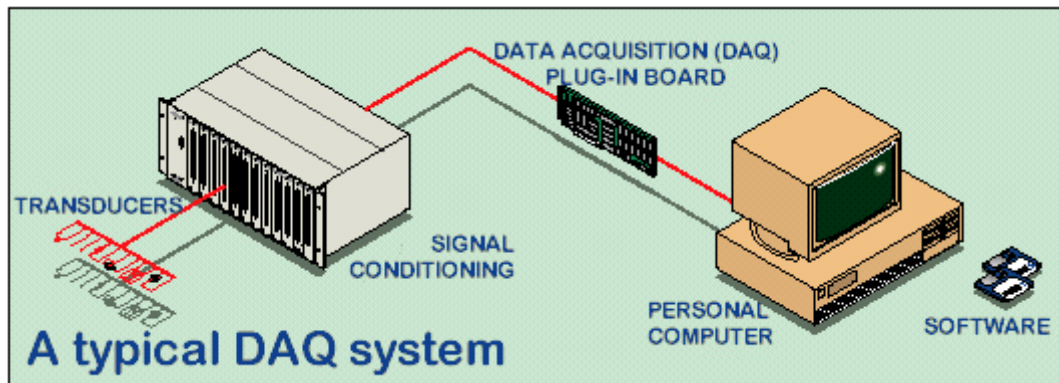

Fig 1: DAQ System Reference [1]
- 5) Similarly select a numerical indicator from the pop-up menu. Repeat step twice to create another two numerical indicator as shown in the Fig 1